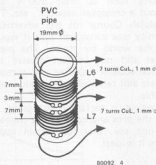

Figure 4. Coils L6 and L7 can be wound, one beside the other, around a piece of PVC conduit.
* see figure 4
make them themselves. However they are not difficult to wind, as there aren't any taps or secondary windings. Three of the eight coils required (L3...L5) are in fact easily obtainable chokes. Details concerning the construction of the other five are provided in figure 3. L6 and L7 can best be wound around a piece of PVC conduit in the manner indicated in figure 4.